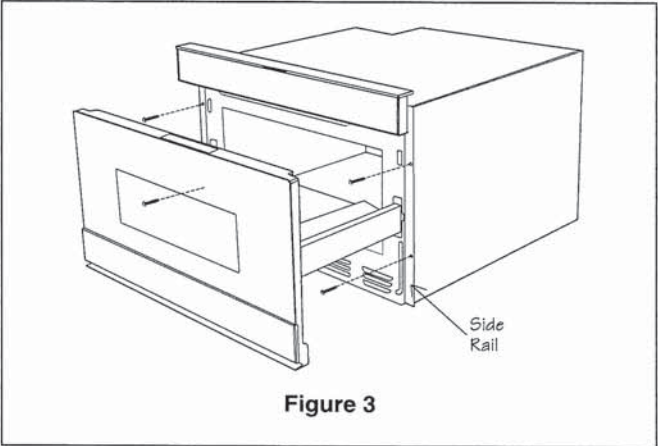

Figure 3
5. Open the drawer. Using the 4 holes on the drawer as a template, pre-drill the cabinet using a 1/16" (1.6 mm) bit. Secure the drawer with the 4 screws supplied. See Figure 3.